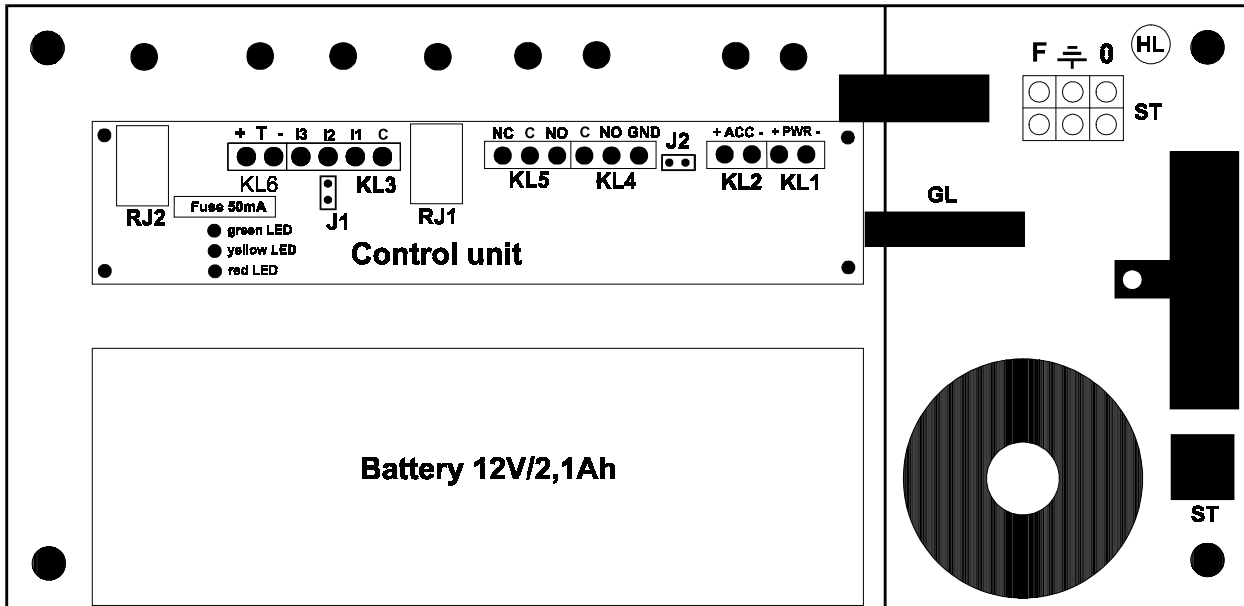

Fig. 3.
In the case of version 1 (with the 220VAC/14VAC stage), the installation includes the following steps from the previous stage: 4 (4a or 4b) and 5. When you've done this, you have to connect 220VAC (with protective ground). The cable should be fed through hole HL (Fig. 3). The live wire should be connected to the screw terminal (ST) marked with the letter F. The neutral wire to the terminal marked with '0', the protective ground to